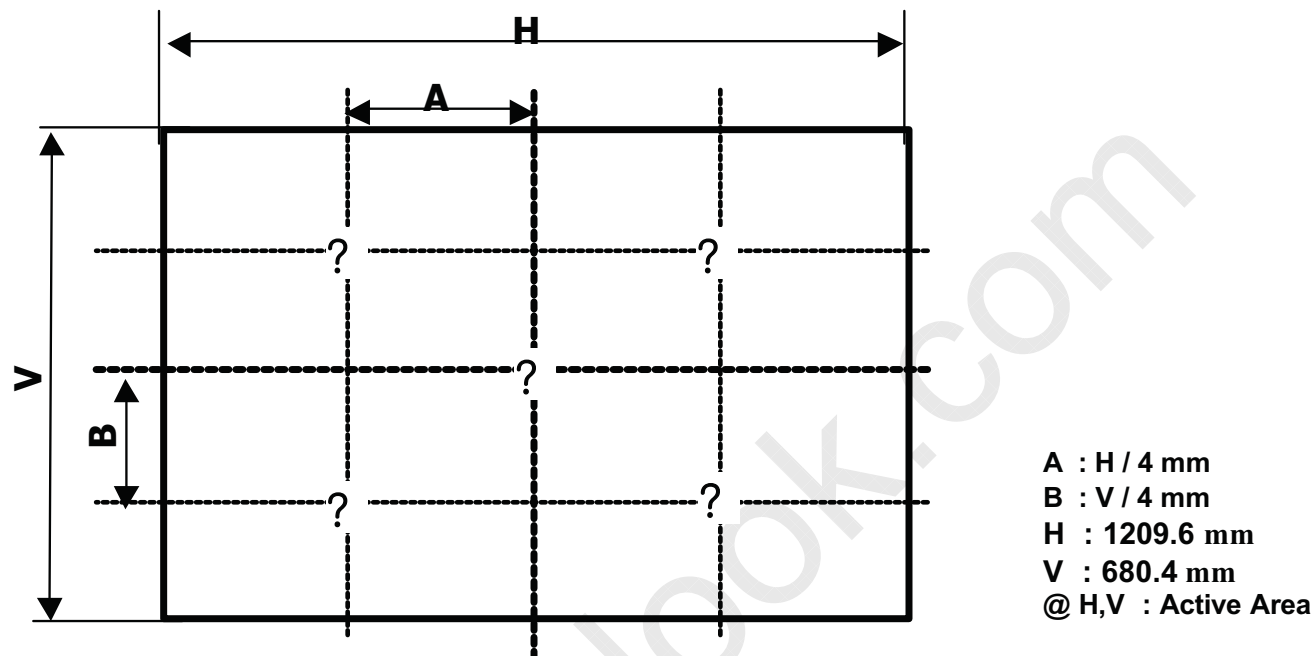

FIG. 2 5 Points for Luminance Measure
2. Surface Luminance( $L_{WH}$ ) is the luminance value measured at an approximate 50cm distance from the center 1-point of LCD surface as all pixels displaying white. See FIG. 2 for more information.
For more information, see the FIG. 2.